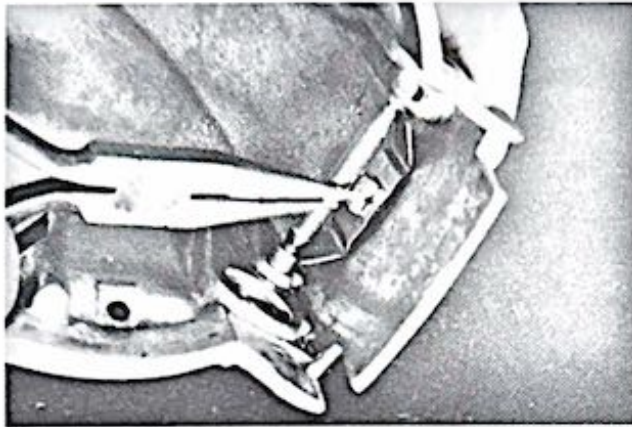

Figure 1-63. Removing handle lock button pin
(1) Disassemble the handle spring as directed in paragraph 1-22a.
(2) Use long-nose pliers to pull the retainer pin (3, fig. 1-3) from the handle lock button (2) as shown in figure 1-63; remove the handle lock button.